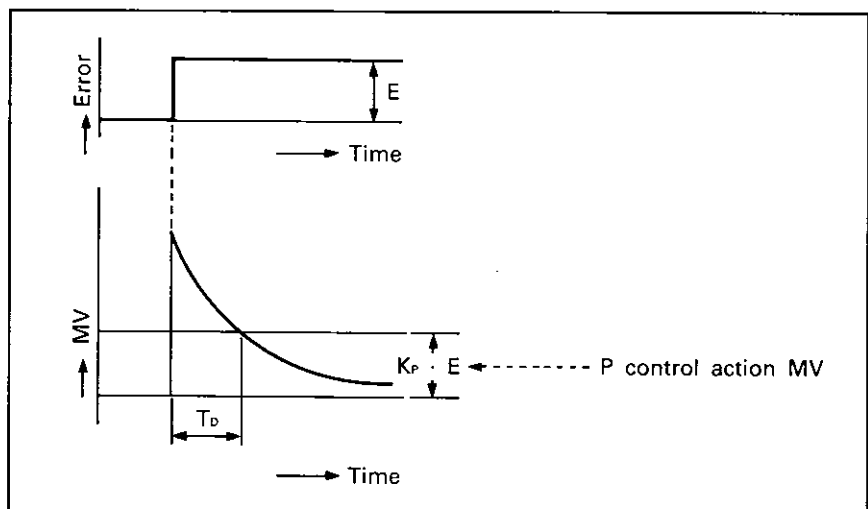

Fig. 1.7 Derivative Control Action Where Error Is Constant
- (3) Fig. 1.7 shows a derivative control action where the error is constant.